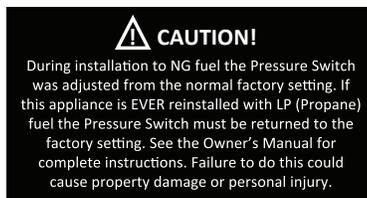

Fig. 32 – Caution Sticker
7. When the Pressure Switch set point is adjusted the appliance may not work properly if the unit is ever reinstalled on LP (Propane fuel). The “CAUTION” sticker (Fig. 32) is supplied in the hardware kit. You must install the “CAUTION” sticker on the appliance above the selector valve cover on the back of the unit prior to completing the installation (Fig. 33).